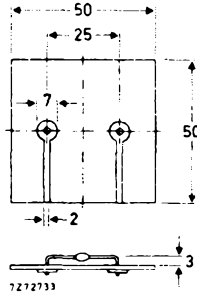

Fig. 2 Mounted on a printed-circuit board.
| $T_{amb} = 60\text{ }^\circ\text{C}$ ; p.c.b. mounting (see Fig. 2)   | $I_{F(AV)}$ | max.     | 1,8          |     | A                |
2. Thermal resistance from junction to ambient when mounted on a 1,5 mm thick epoxy-glass printed-circuit board; Cu-thickness  $\geq 40\text{ }\mu\text{m}$ ; Fig. 2